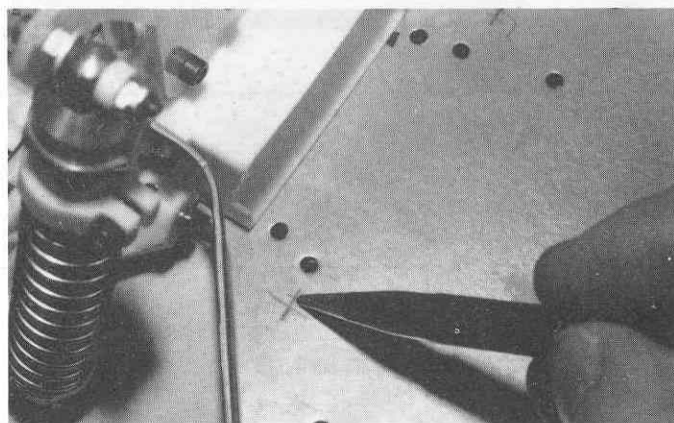

Fig. 167
□ **Fig. 167** Locate the positions for the mounting holes by extending the center lines inward. Center-punch, drill and countersink the chassis as explained in step 148.